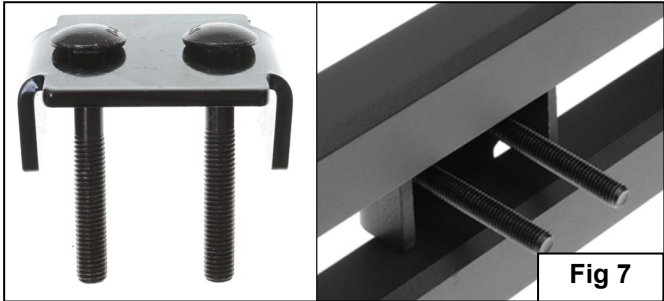
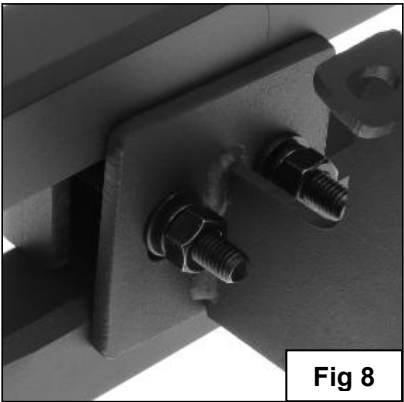

Fig 7
Fig 8
5. Select the Driver Side Bar. Slip (2) M10X1.5-75 Carriage Bolts into each 2-Hole Support Brackets ,and insert the 2-Hole support bracket into the Driver Side Bar.(**Fig 7**). Carefully position the Bar onto the (3) Mounting Brackets. **IMPORTANT:** Do not slide the Bar on the Brackets or damage to the finish may result. Attach the Driver Side Bar to the Mounting Brackets with (2) M10 Hex Nuts,(2)M10 lock washers and (2)M10 flat washers, (**Fig 8**). Do not tighten hardware.